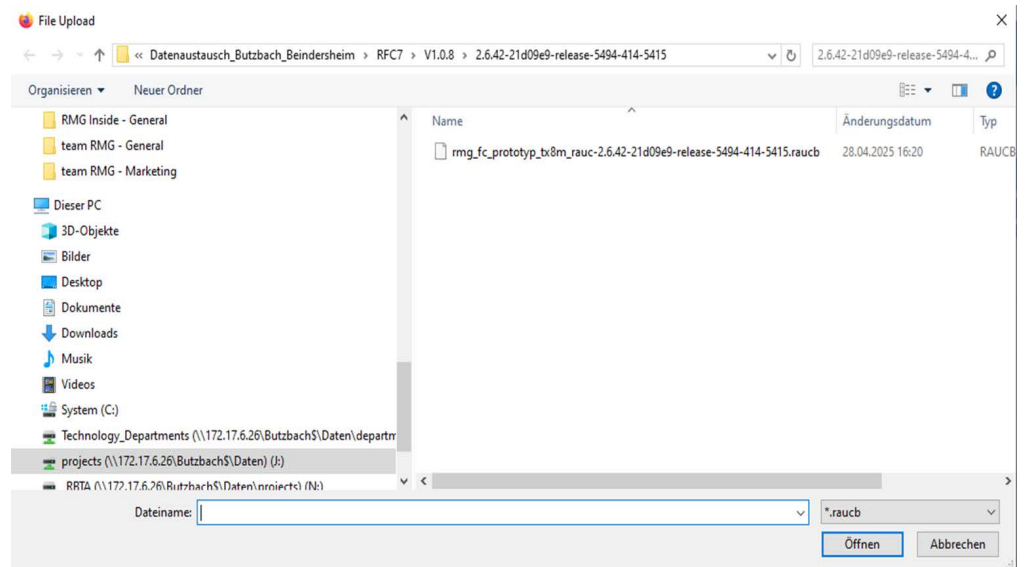

Fig. 98: Windows Explorer window
- ➔ A Windows Explorer window will open (cf. fig. 98)